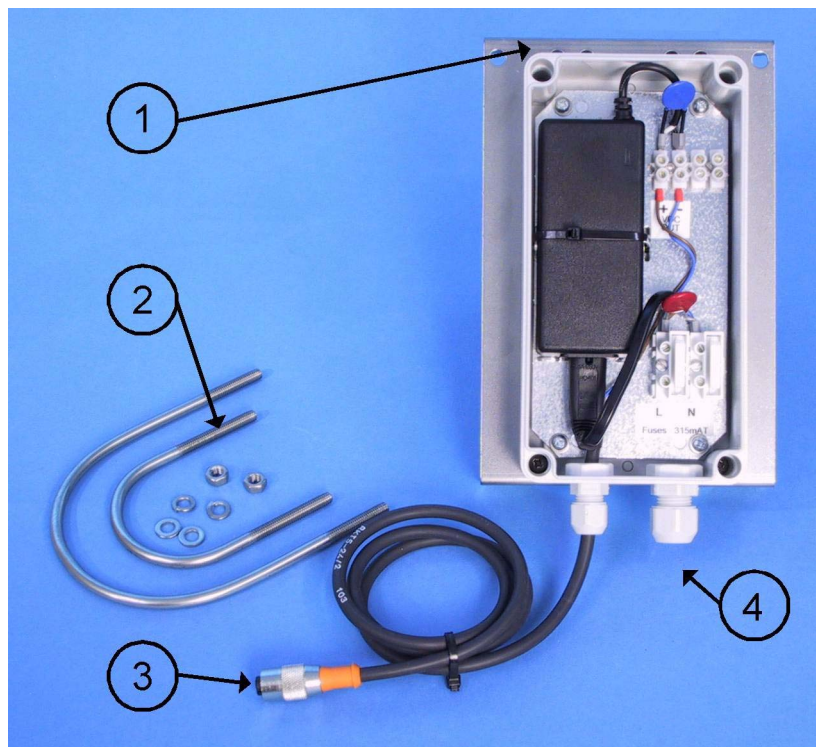

Figure 55 QMP213 with Installation Accessories
1. Attach the unit through the holes in the upper end (number 1 in Figure 55 on page 70) with the provided accessories (2) to the mast. The cable inlets should face down.
2. Lead the mains power cable through the opening (4) and connect the wires under the screws into the locations marked with L and N. Tighten the inlet nut properly.
3. Connect the output power cable (3) to the power connector of MAWS.